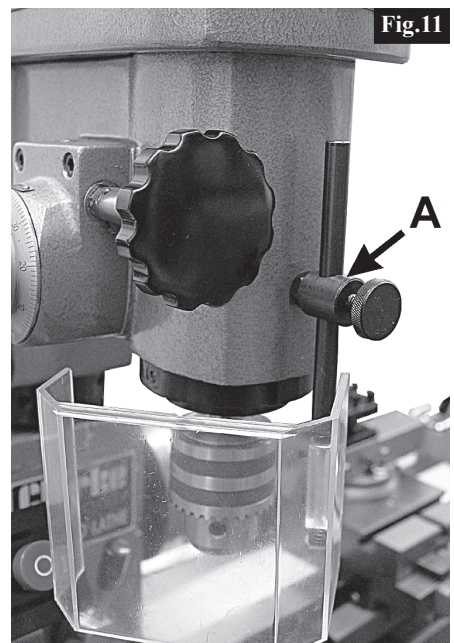

**Fig.10**
- Screw the two handles ('C' Fig.10) into the spindle feed hub and tighten.
**NOTE:** A locking lever ('E' Fig.10) secures the Mill Head. By slackening the lever, the Mill Head may be rotated about the Headstock - convenient for moving it out of the way during turning operations.
- Unscrew and remove the spindle sleeve locating peg from the front of the mill head shown at 'H', Fig. 10.